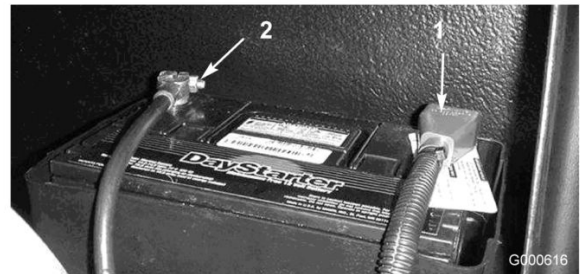

Figure 42
5. Install the positive cable (red) to the positive (+) terminal and the negative cable (black) to the negative (-) terminal of the battery (Figure 42). Secure cables to posts with capscrews and nuts. Make sure that the positive (+) terminal is all of the way onto the post and the cable is positioned snug to the battery. The cable must not contact the battery cover. Slide the rubber boot over the positive terminal to prevent a possible short from occurring.